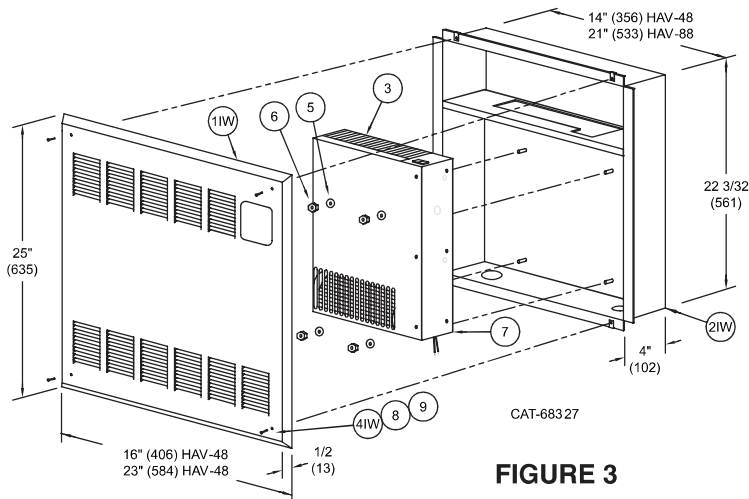
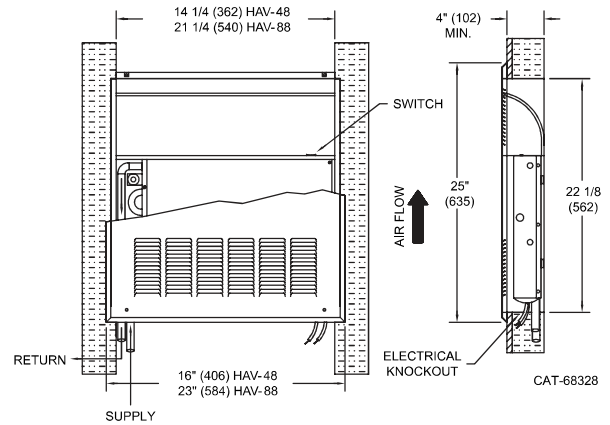
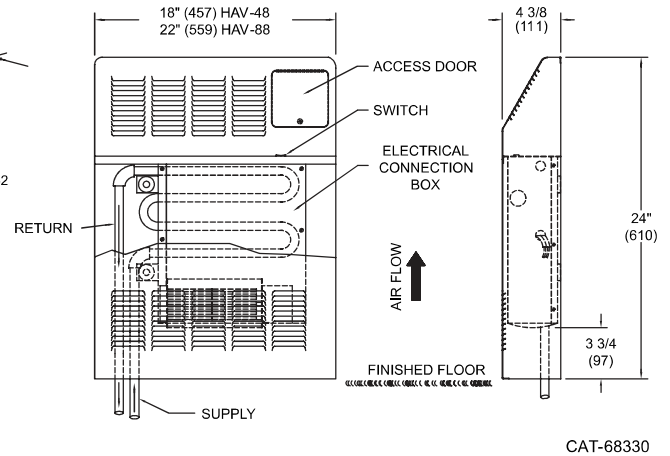

FIGURE 3
FIGURE 4
FIGURE 6
Figures 3 and 5 show exploded views of the wall models. Figure 4 shows the "IW" type mounted in a wall with an air outlet at the top of the unit. Figure 6 shows the wall mounted "EW". The louvers of the front panel will direct the air flow as shown. Use the following procedures for installation:
VERTICAL FIGURE 3 PARTS LIST
- 1.) Frame an opening between wall studding as shown in Figure 4. Model 48-3 will fit between studs that are on 16" centers. Model 88-3 will require a small amount of framing to suit the mounting. A 7/8" diameter hole is provided at the bottom of the cabinet interior to provide entrances for electrical connections, and a 7/8" diameter knockout is provided at the rear of the motor in the electrical control box. A 2-1/2" diameter hole is provided at the bottom of the cabinet interior to provide an entrance for piping connections. Cut horizontal framing to clear, as necessary.
- 4.) Mount the Fan/Coil Unit (Item 3) to the recessed back panel, remove the electrical control box cover from fan/coil unit. Secure the fan/coil unit in place using Items 5 & 6 as shown in Figure 3. Do not over tighten.